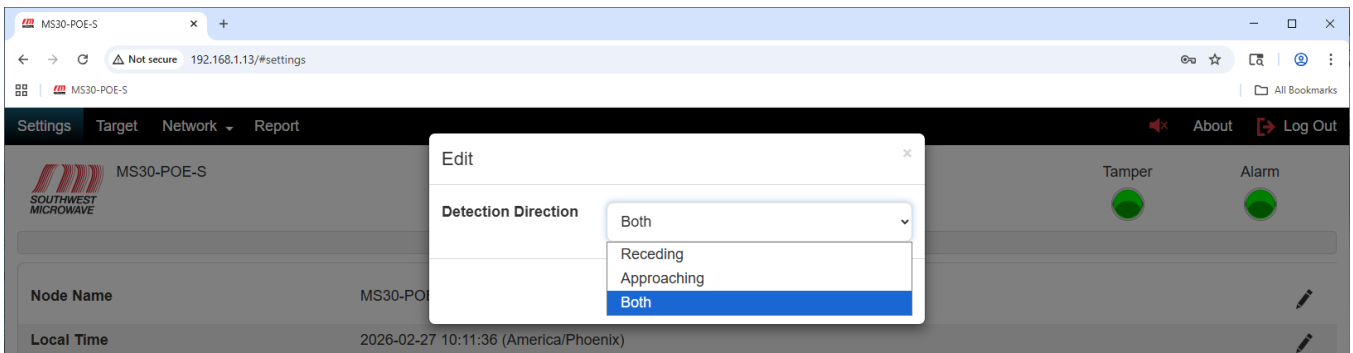

Figure 9.6 – Detection Direction
To edit the “Detection Direction” select the pencil icon at the end of the Detection Direction field (far right on screen) to open the “Detection Direction Edit” dialog box. Select the pull-down menu to display the three (3) settings as shown in Figure 9.6. The selections are Receding, Approaching, and Both. Receding will only detect targets moving away from the sensor, approaching will only detect targets moving towards the sensor, and both will detect targets moving in both directions.